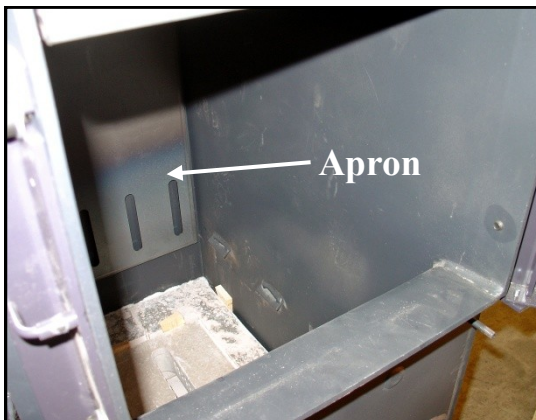

Fig. 4.10 Firebox with Aprons Removed
2. Unhinge the firebox aprons (**Fig.4.10**).